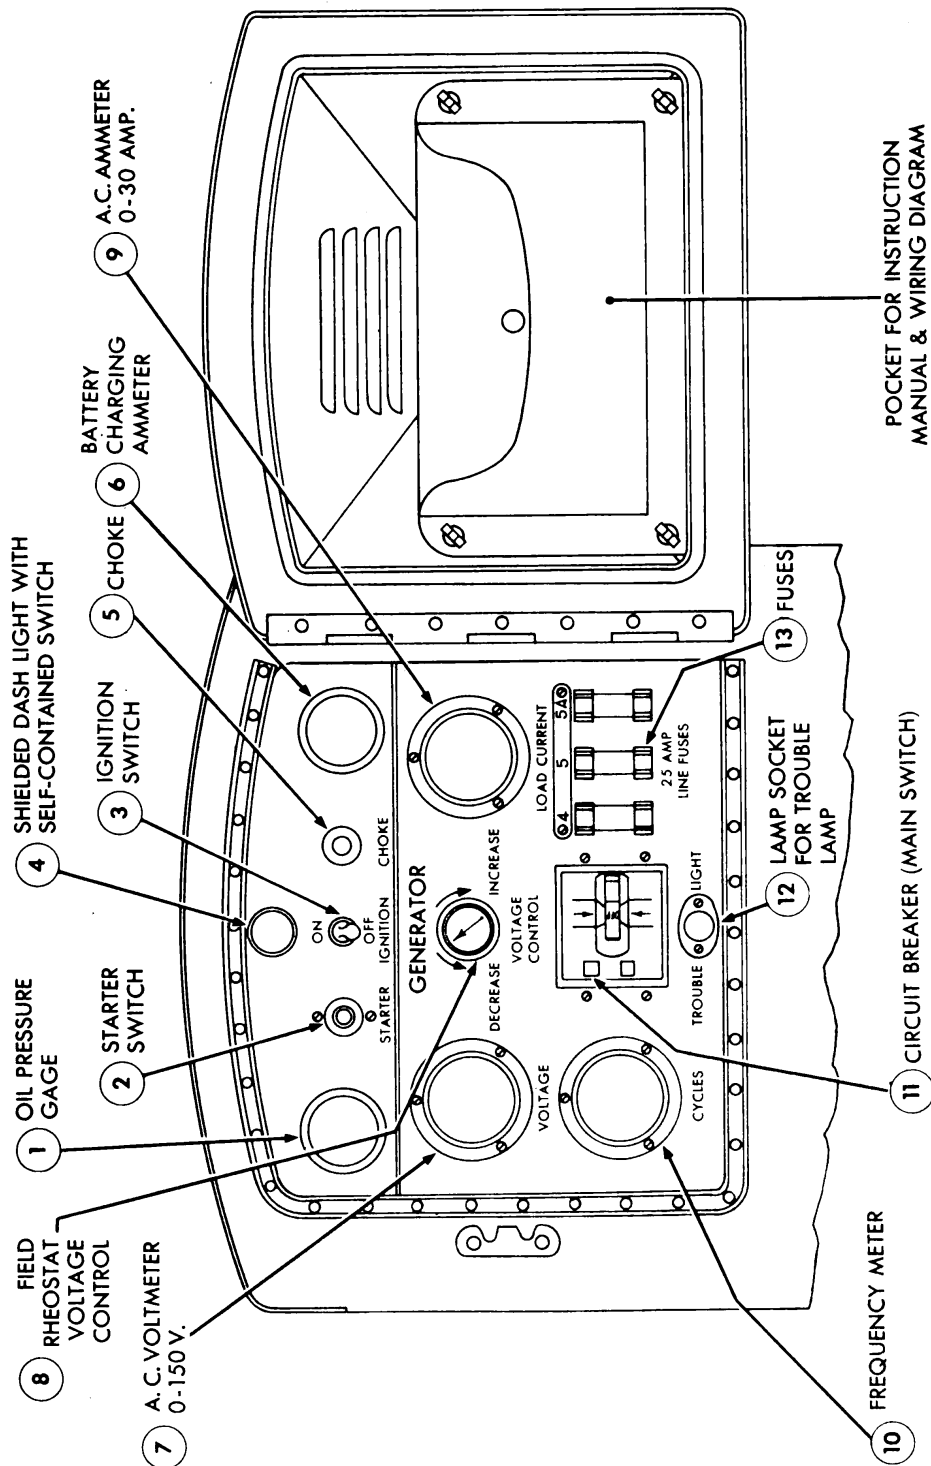

Figure 7 — Instrument Panel
- (2) Pull out the choke button if the engine is cold (5, fig. 7).
- (3) Snap on the ignition switch (3, fig. 7).
- (4) Push in the starter switch button (2, fig. 7).
a. **Circuit Breaker.** After the engine has been started and is operating satisfactorily, the electrical load may be applied by throwing the circuit breaker to "ON" position (11, fig. 7). The circuit breaker will automatically disconnect the generator from the load should any trouble develop. It resets immediately when thrown to the "ON" position again, and throws out if the trouble still exists. The trouble, generally a short circuit, should be cleared before further use.
b. **Fuses.** To guard against the circuit breaker sticking, or failing to throw out for any reason, there are three fuses (13, fig. 7), one in each line which will save the generator from a continuous overload.
c. **Voltmeter.** The voltmeter (7, fig. 7) is connected in the circuit ahead of the main switch and will indicate the line voltage at all times unless the fuses are out. If the machine is running and the voltmeter does not register, check the fuses before looking further.
d. **Controlling Voltage.** The field rheostat (8, fig. 7) may be manually operated to change the voltage in the line. To increase the voltage, turn the knob to the right as shown by the arrow on the panel; to decrease, turn to the left. By controlling the voltage in the d-c exciter, this rheostat varies the excitation of the a-c generator, and thus controls the voltage of the entire unit. It is generally advisable to adjust the voltage to the rated or desired value after the machine reaches a steady operating condition at its normal load. As an initial
e. Ammeter. The ammeter (9, fig. 7) is placed in one phase (one line) of the load circuit, and gives a direct indication of the load if the load is properly balanced between phases. Since some of the load may be single phase, it is advisable to check each phase occasionally with a portable ammeter and, if necessary, reconnect the load so that it is more evenly balanced. The rated full load for the M5 Unit, 3-phase, 60-cycle, 125-volts, is 13.9 amperes. For the M5 Unit, 3-phase, 50-cycle, 130-volts, the rated load is 13.3 amperes. For the M6 Unit, single-phase, 60-cycle, the rated load will be 20 amperes. The generator will not be harmed if it is operated for as long as 2 hours at 25 percent overload or 25 percent more current.
a. To shut down, throw the circuit breaker to "OFF" position. This will take the load off the generator. Then snap off the ignition switch (3, fig. 7). Shut off the gasoline at the tank. In cold weather, pull out the choke as you turn off the ignition. A rich mixture will thus be drawn into the cylinders, making easier starting the next time the unit is put in operation.
b. A socket at the bottom of the instrument panel (12, fig. 7) is for plugging in the trouble light extension. This also operates off the battery and is independent of the generator. The trouble lamp is kept in the tool box.
- (1) Gasoline — at tank, carburetor, sediment bowl, or gas lines.
- (2) Oil — under unit, indicating loose engine oil pan mounting bolts.
- (3) Water — under radiator and at hose connections.
b. Instruments. The instruments on the control panel give a constant indication of what is going on within the unit, and the operator should look at them frequently. If not familiar with the names of the instruments, see figure 7. Observe the following requirements:
- (1) OIL PRESSURE GAGE (1, fig. 7). Reading will usually be between 10 and 20 when the engine is warm.
- (2) PANEL LIGHT. Turn on the panel light (4, fig. 7) with the switch contained in its base. (Failure to light may be due to a burned-out bulb.)
- (3) CHOKE (5, fig. 7). The choke should be all the way in as soon as the engine will operate properly without its use.
(4) **ENGINE AMMETER** (6, fig. 7). The needle should be to the right or "+" side of the "0" to show that the generator is charging the battery.
(5) **A-C VOLTMETER**. The a-c voltmeter (7, fig. 7) shows the voltage in the line. During 60-cycle operation it should be 125. During 50-cycle operation it should be 130. A variation of about 3 volts from these readings is to be expected. A constant variation can be corrected with the rheostat. If the needle vibrates back and forth, the engine governor may need attention.
(6) **A-C AMMETER** (9, fig. 7). The a-c ammeter measures the load on the generator. Normal full load is 13 amperes for 3-phase machines, 20 amperes for M6 single-phase.
(7) **FREQUENCY METER** (10, fig. 7). The reed that looks fuzzy and appears longer than its neighbors indicates the frequency of the current in cycles.